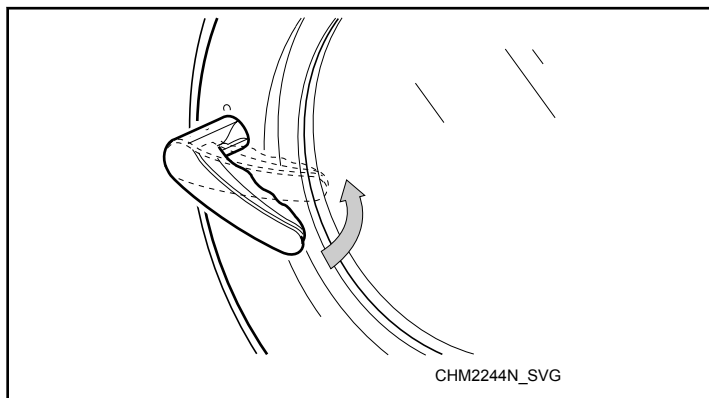

Figure 40
4. Close door and turn handle counter clockwise. Refer to *Figure 40*.